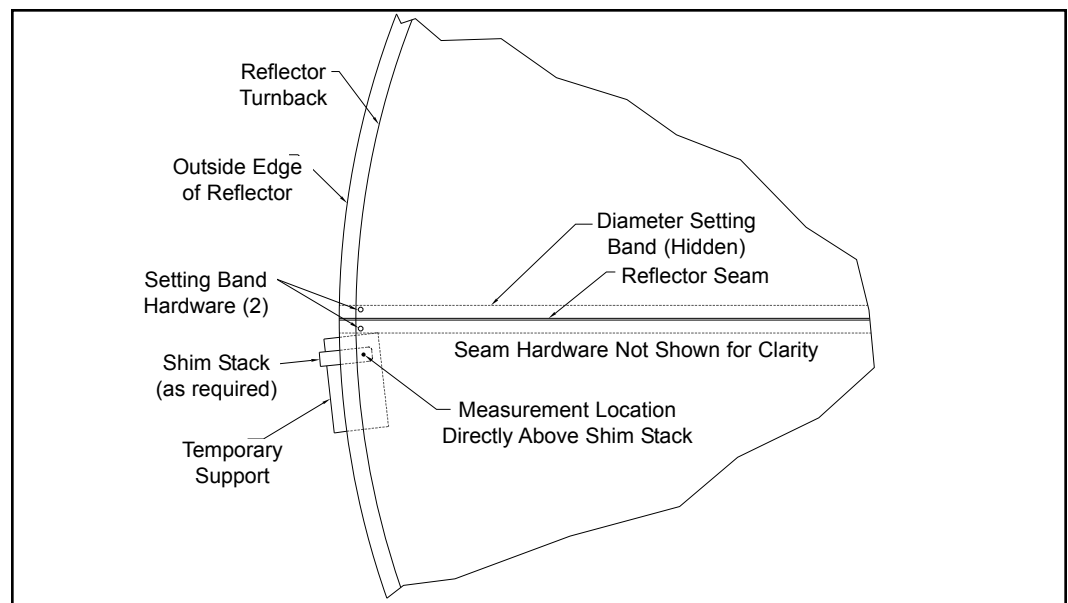

Figure 63
- Step 5** Temporary supports should be positioned as shown in Figure 63, close to but not interfering with diameter setting bands.
- Step 6** Referring to Figure 63, mark the measuring location at each of the six temporary support locations with a small dot (use felt tip marker) to be used as reference point in subsequent measurements.
Step 9 Shim each location as required to level the reflector (see Figure 63).
Step 11 Continue to measure, record, compare and shim any low temporary support location points until all (6) temporary location points are within 0.030 inches [0.75 mm] elevation from each other.